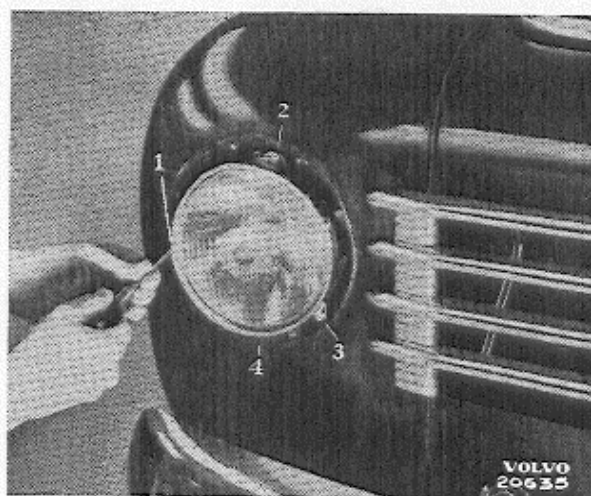

Fig. 13.
2. Loosen the screws (1—3, fig. 13) on the headlight unit holder (4). Turn until the hooks are free from the screws and then lift out the holder, headlight unit and bulb-holder.